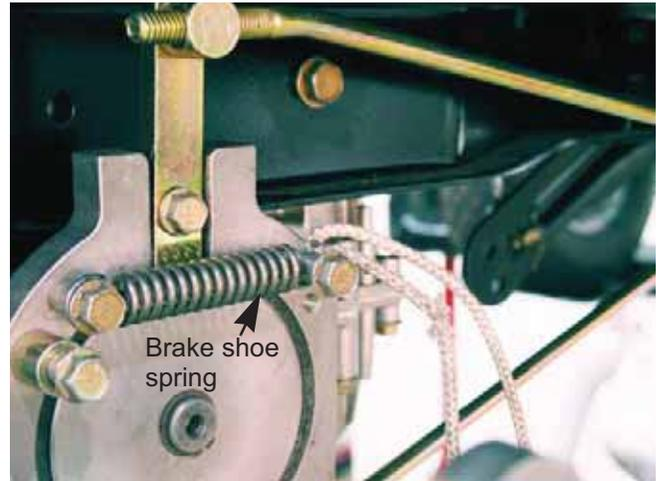

Figure 3.14
4. Disconnect the brake shoe spring. See Figure 3.14.